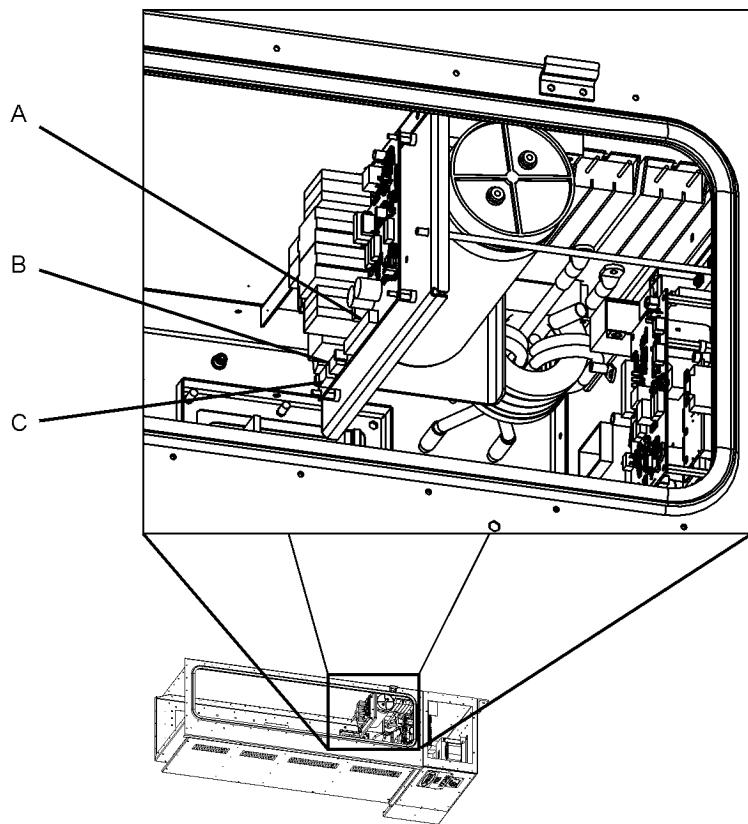
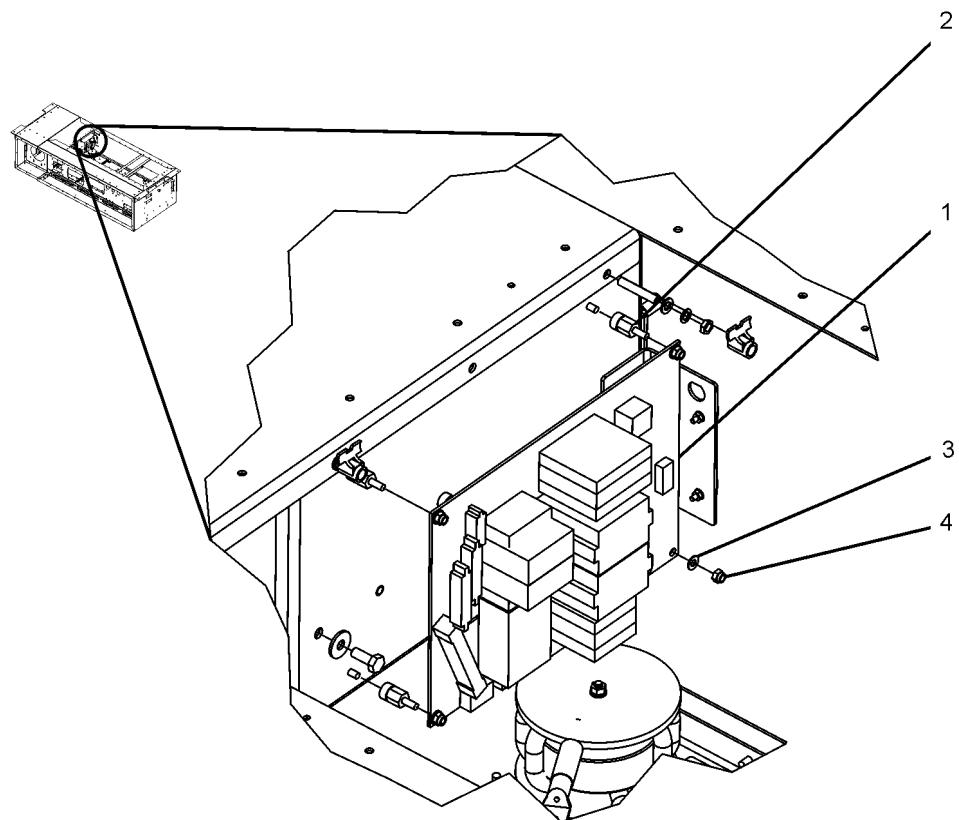

Figure 5-6: A103 Electrical Connections
Figure 5-7: A103 Anchor Points
- a. Disconnect External Cables. There are three cables which connect to the A103. These connections are identified as A, B & C and are shown in Figure 5-6. Unplug the cables.
6. Detach A103 (see Figure 5-7). A103 (1) is mounted atop M4x15 Standoffs (2) at four anchor points using M4 locking nuts (4) and M8 washers (3) at each point. Remove these fasteners to detach the A103.
2. Insert A103 Module (see Figure 5-7). Orient the A103 module (1) so that it is seen as shown.
3. Attach A103. A103 (1) is mounted atop M4x15 Standoffs (2) at four anchor points using M4 locking nuts (4) and M4 washers (3) at each point. Affix these fasteners to attach the A103. Tighten the locking nut to fit.
- a. Connect External Cables. There are three cables which connect to the A103. These connections are identified as A, B & C and are shown in Figure 5-6. Insert the plugs for the cables.